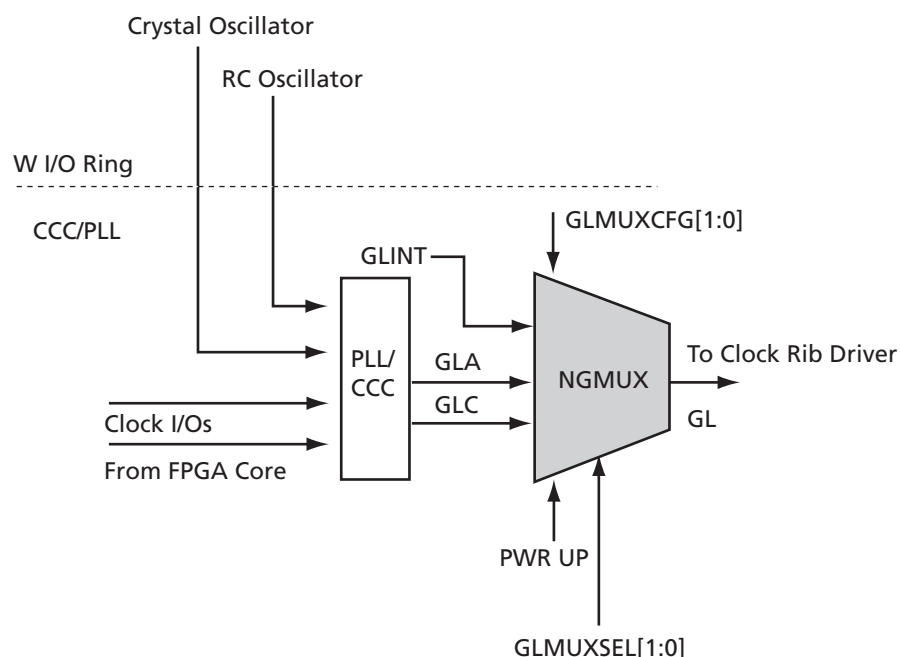

Figure 2-24 • NGMUX
Positioned downstream from the PLL/CCC blocks, the NGMUX provides a special switching sequence between two asynchronous clock domains that prevents generating any unwanted narrow clock pulses. The NGMUX is used to switch the source of a global between three different clock sources. Allowable inputs are either two PLL/CCC outputs or a PLL/CCC output and a regular net, as shown in Figure 2-24. The GLMUXCFG[1:0] configuration bits determine the source of the CLK inputs (i.e., internal signal or GLC). These are set by SmartGen during design but can also be changed by dynamically reconfiguring the PLL. The GLMUXSEL[1:0] bits control which clock source is passed through the NGMUX to the global network (GL). See Table 2-14.